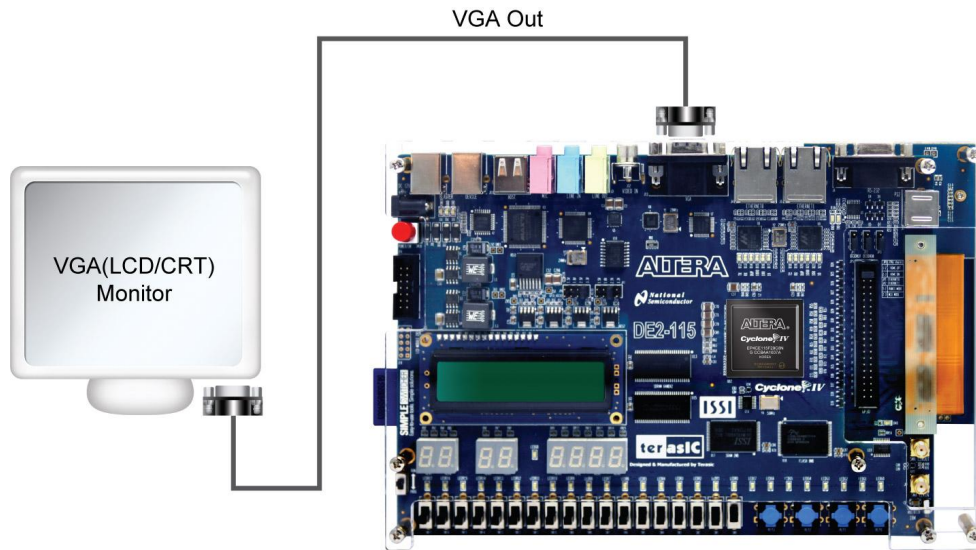

Figure 4-15 Setup for the tPad\_VIP\_Camera demonstration
**Figure 4-15** illustrates the setup for this demonstration.